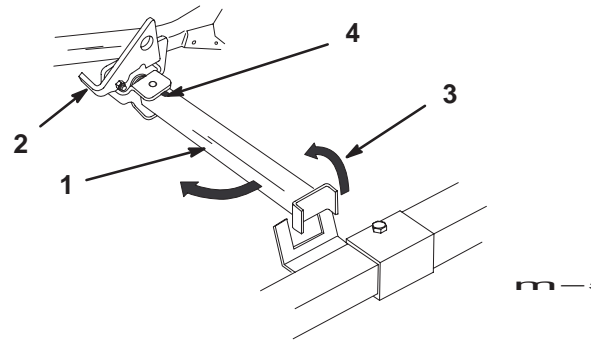

Figure 26
2. Raise latch. Lift stand foot and twist out of its rest position (Fig. 26).
3. Swing stand foot out front and slide stand toward machine, into the bottom of slot (Fig. 26).
4. Return stand to its rest position (Fig. 26).